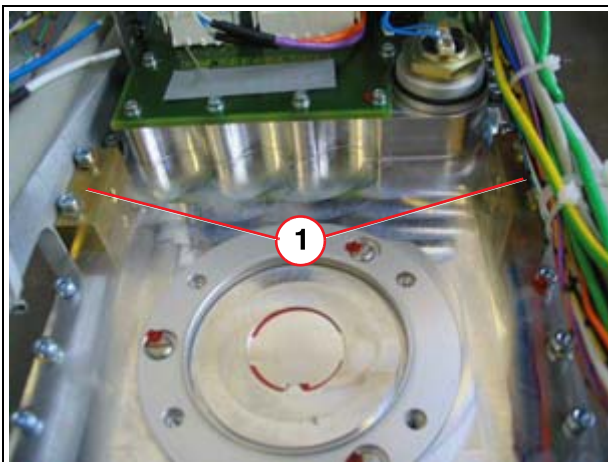

Fig. 13: Bracket
7. Remove the ISK screw from the connection single tank housing - bracket (1/Fig. 13 / p. 37).
23. Fix each bracket (1/Fig. 13 / p. 37) with the ISK screw and insert the shim (s) (Fig. 14 / p. 37) into the required position before tightening the Allen screws (use Loctite 221).
⇒ No gap should be between the bracket (1/Fig. 13 / p. 37) and the single tank housing.